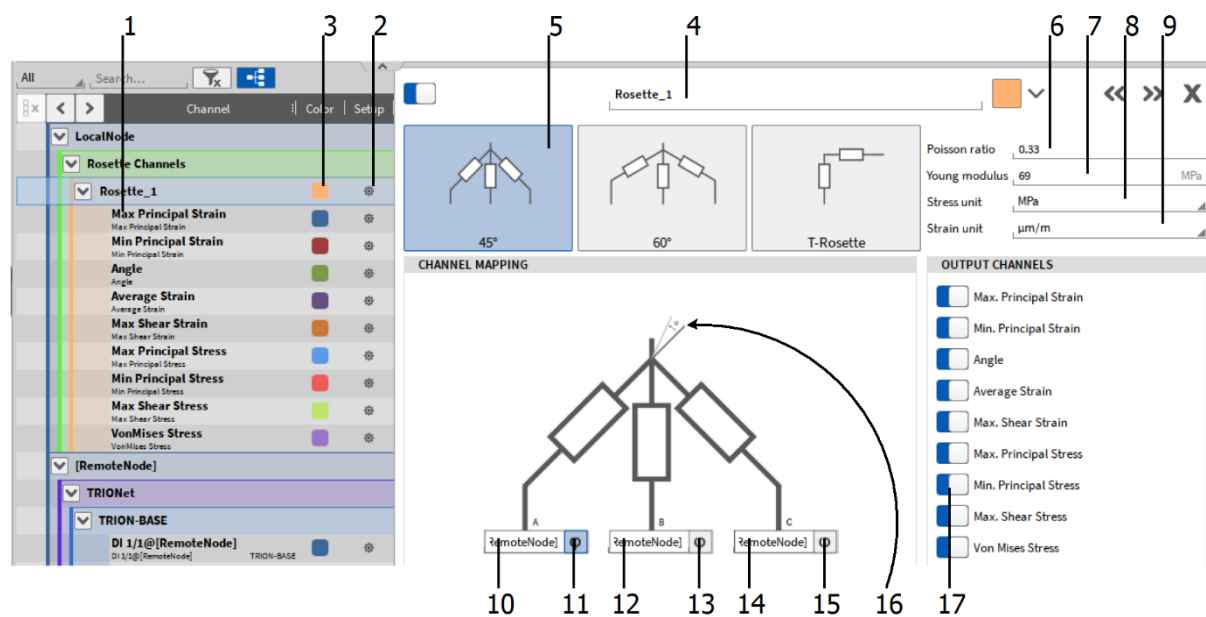
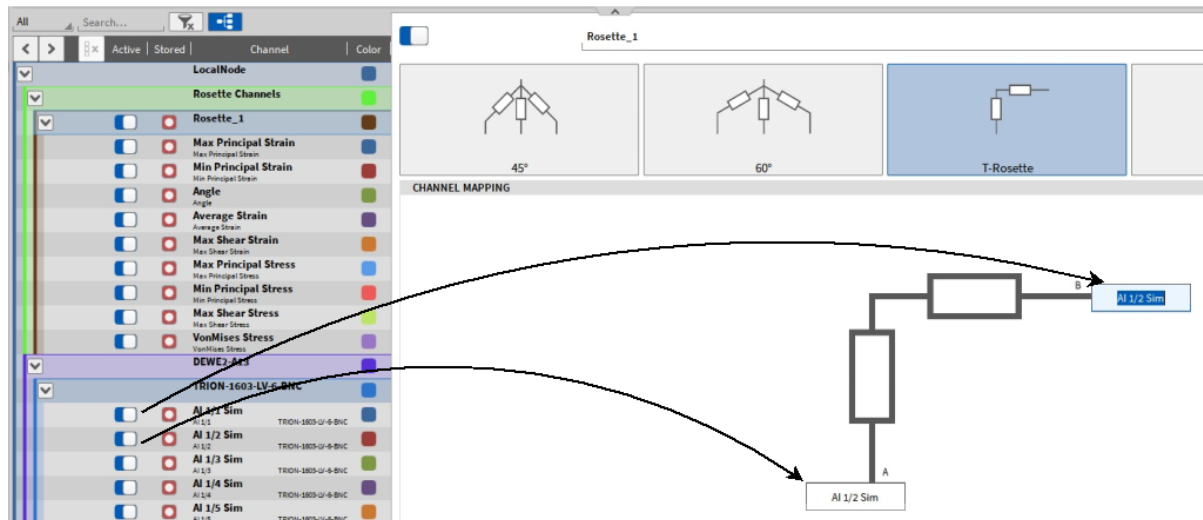

Fig. 7.106: Rosette channel setup – overview
Fig. 7.108: Channel assignment in the rosette channel setup
For creating a Rosette channel, the user must click on the *Add* button in the lower left corner (marked red in Fig. 7.48) and a window will appear (see Fig. 7.105). To create a Rosette channel, select *Rosette*. After clicking on the OK button, a Rosette main channel (*Rosette\_1* in Fig. 7.106) with its Sub channels (*Max Principal strain* to *VonMises Stress* in Fig. 7.106) is added to the channel List. A click on the gear button of the main rosette channel will open the Rosette settings to perform changes afterwards (see Fig. 7.106).
The channel assignment can be edited after creating the Rosette calculation in the Channel setup of the main channel (see ⑩ in Fig. 7.106) by dragging and dropping the desired channel from the Channel List on the left-hand side to the individual input channel of the rosette calculation (see Fig. 7.108).
The sub channels (see ⑪ in Fig. 7.106) resulting from the rosette calculation have a Channel Setup that can be accessed via the Gear Button in the Channel List as well. But only the Channel scaling can be edited there.